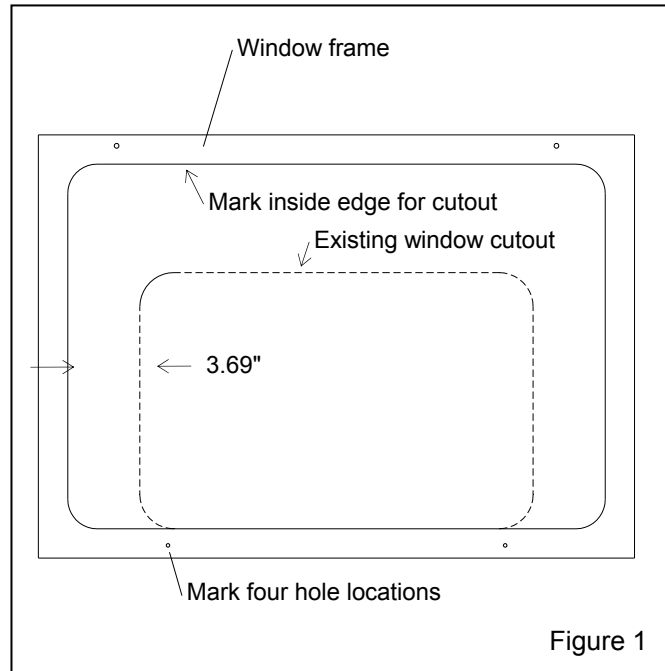

Figure 1
3.1 Place the new window frame (flat side down) on the window opening as shown in Figure 1, making sure the inside, lower edge of the frame is aligned with the lower edge of the existing opening. Using the frame as a template, mark the cabinet for the new cutout and screw holes.